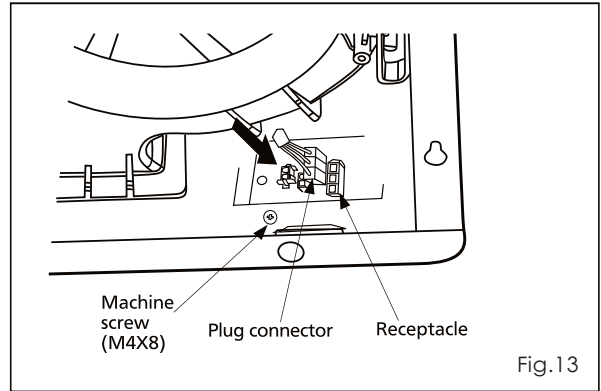
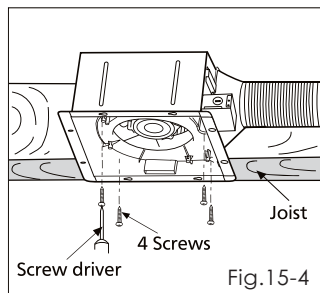

Fig.13
Fig.15-4
6. Secure the fan body to adaptor by using machine screw (M4X8) and plug connector to receptacle. (Fig.13)
5. Secure the adaptor to fan body by using machine screw (M4X8). (Fig. 13)
8. Secure the blower. (Fig. 15-4) and plug connector to receptacle. (Fig. 13)